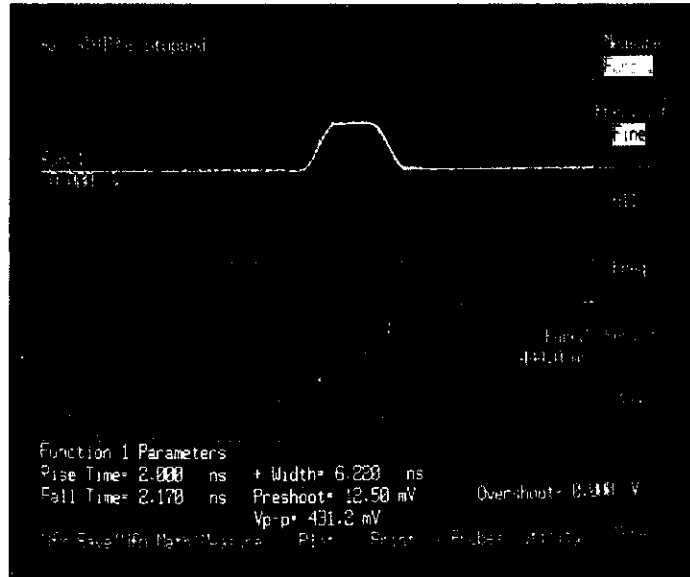

Figure 7-29. Automated Measurements on Func 1.
8. Return to the measure menu and measure "All" parameters on func 1 (see figure 7-29). The instrument will make the measurements that it can using the displayed data.